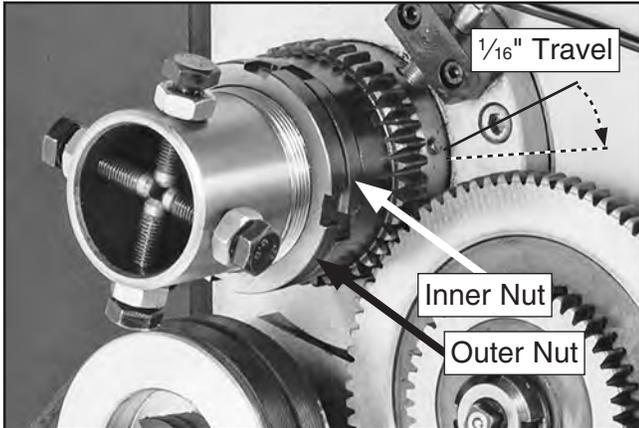

Figure 125. Final spanner nut rotation.
12. Tighten inner spanner nut an additional $\frac{1}{16}$ " along its circumference. See **Figure 125** for an example of this measurement.